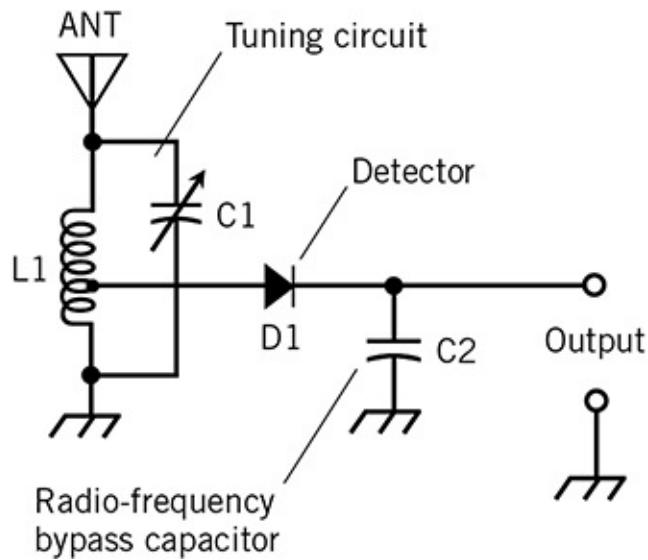
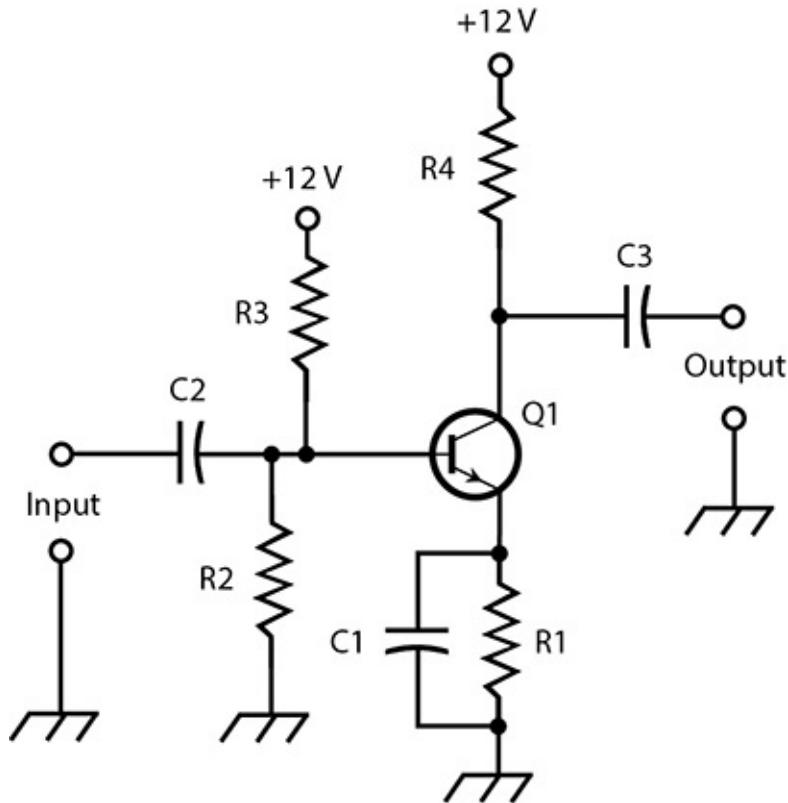
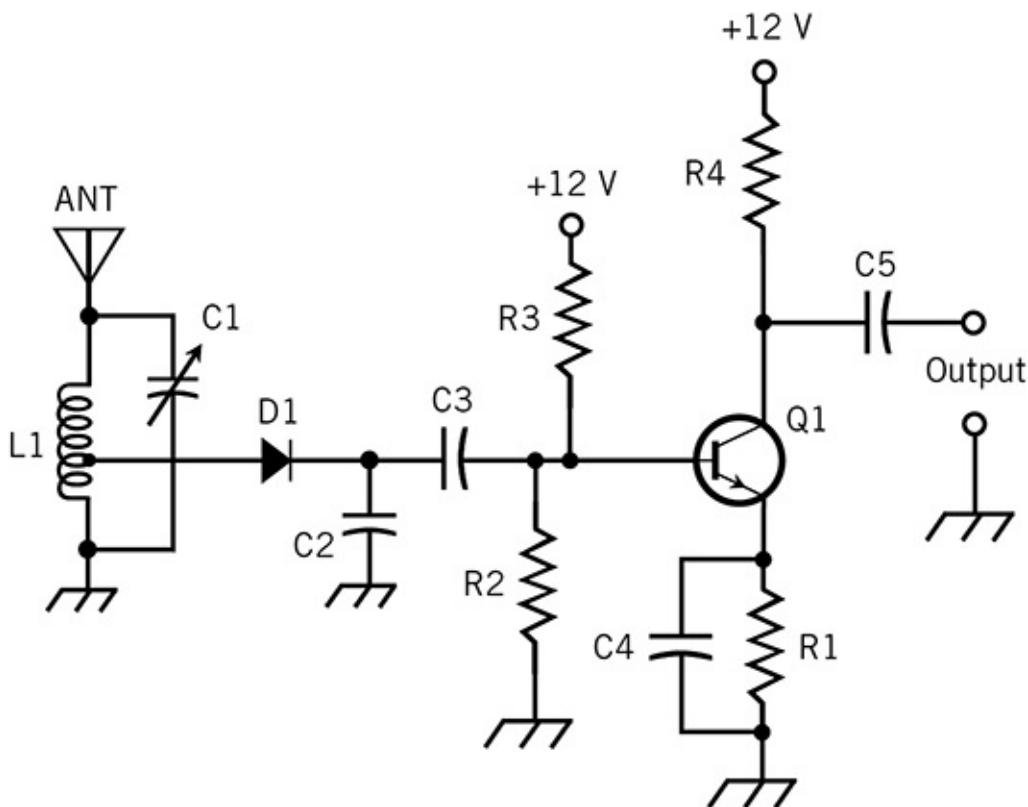
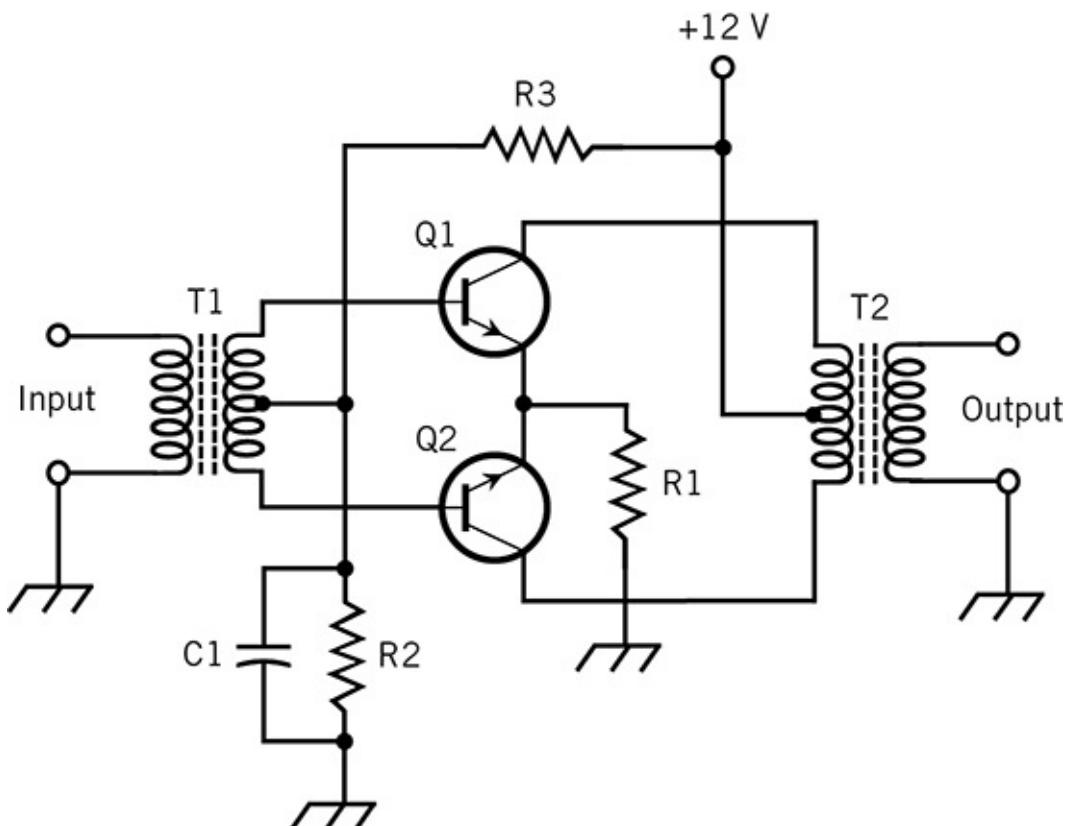

FIG. 5-1 Schematic of the tuned circuit and detector stages of a “crystal radio” receiver. This circuit produces a weak audio-frequency (AF) signal.
FIG. 5-2 An AF preamplifier circuit that can work with the “crystal radio” to produce a signal strong enough to drive a headset.
FIG. 5-3 Combination of "crystal radio" tuned circuit, detector, and AF preamplifier stages. Some component designators are updated from Fig. 5-2.
FIG. 5-4 An AF power amplifier circuit suitable for driving a speaker.
Figure 5-1 shows a “crystal radio” receiver built with an antenna, a tapped air-core inductor, a variable capacitor, an RF diode, and a fixed capacitor. The term “crystal” derives from the original construction of RF diodes in the early 1900s. In order to get a one-way current gate to act as a signal *detector* (or *demodulator*), radio experimenters placed a strand of fine wire called a *cat’s whisker* into contact with a chunk of crystalline lead sulfide called *galena*. Today, semiconductor diodes process RF signals in the same way as “crystals” once did, even though modern RF diodes don’t look like the old galena-and-cat’s-whisker contrivances.
You can’t call the circuit of Fig. 5-1 “complicated,” but it performs some sophisticated tricks. Aside from the antenna (an external component such as a length of wire running outdoors under a window sash to a tree) and a sensitive earphone or headphone that you can connect at the output terminals to hear radio stations (however faintly), this circuit contains only four components: the coil, the diode, and two capacitors.
audio-frequency (AF) volume to the point where it can drive a headset to a comfortable listening level. Figure 5-1 doesn't include a headset at the output. To accomplish that feat, you'll need another circuit, along with a battery or other source of DC power to make the AF output signal strong enough.
In the “crystal radio” (Fig. 5-1), RF current from the antenna *resonates* (reverberates) in L1 and C1. The *resonant frequency* depends on the size of the coil and also on the setting of C1. That frequency determines which station (if any) that you hear. Diode D1 converts the RF current to pulsating DC that contains a tiny bit of both the RF and the AF energy from the original transmitter. Capacitor C2 shorts the RF part of the signal to ground, leaving only AF energy at the output. You must adjust the position of the coil tap, by trial and error, to maximize the AF output.
Figure 5-2 shows another fairly simple schematic: an AF amplifier that employs a single NPN bipolar transistor. In addition to the transistor, this circuit has four resistors and three capacitors for a total of eight components. It needs a source of DC power such as a battery (not shown), which provides 12 V. This circuit accepts a low-level AF signal (the output of a “crystal radio,” for example) at the input terminals and boosts the power to a level strong enough to make audible sound come out of a headset. An experienced engineer might need a couple minutes to scribble the schematic and a couple of hours to build and test the circuit, “tweaking” the component values to get the best possible performance.
Because the circuit of Fig. 5-2 takes a weak signal and boosts it to a reasonable (but not very powerful) level, it’s sometimes called a *preamplifier*. If you want to drive a speaker so that all the students in a classroom can hear the sound, you’ll need more amplification. You can get that extra AF boost with one or more additional amplifiers connected to the output of the preamplifier.
In the circuit of Fig. 5-2, AF current passes from the input through C2 to the base of Q1. Capacitor C2 keeps the power supply DC from affecting the behavior of the previous circuit (the “crystal radio”). Tiny current fluctuations at the base of Q1 cause larger current variations through the transistor from the emitter to the collector. The amplified AF signal passes through C3 to the output. The resistors govern the current flowing through Q1; you must choose their values by experiment for optimum amplification. Capacitor C1 keeps the emitter at AF signal ground while resistor R1 allows some DC voltage to exist there.
Figure 5-3 is a schematic of a circuit that looks, at first glance, more complicated than either Fig. 5-1 or Fig. 5-2. But as you examine Fig. 5-3 for a minute, you'll see that it's nothing more than the composite of the "crystal radio" (Fig. 5-1) and the AF preamplifier (Fig. 5-2). The components are re-numbered generally going from left to right, the direction of signal flow through the system. (You should never duplicate a component designator within a single schematic.) In Fig. 5-3, the connection between the original "crystal radio" and the preamplifier corresponds to the short, horizontal line that goes from the dot above C2 to the left-hand side of C3.
Now that you can envision the two building blocks that make up the circuit of Fig. 5-3, the whole diagram looks elementary, wouldn't you say? You can follow the signal as it passes through the "crystal radio" and then through the AF preamplifier. The entire process, from the RF signal arriving at the antenna to the AF energy appearing at the output, takes place in a tiny fraction of a second.
The circuit of Fig. 5-3 produces a stronger signal than the feeble output of the "crystal radio" alone, which gets its power only from RF current that flows in
the antenna. Nevertheless, even the amplified AF output from the circuit of Fig. 5-3 isn't strong enough to provide a comfortable listening volume in a loudspeaker. It offers some sound power if you connect a headset to it, but not much. In order to further boost the AF signal level, you'll need a substantial *power amplifier*.
Figure 5-4 shows a two-transistor ensemble that can produce respectable sound power. It's called a *push-pull amplifier*. The top transistor amplifies half the AF waveform and the bottom transistor amplifies the other half. Imagine that Q1 "pushes" and Q2 "pulls" so when you combine their outputs, you get a magnified version of the entire input waveform. The push-pull amplifier can take the weak AF signal from a low-level amplifier (such as the circuit of Fig. 5-3) and boost it enough to make some loud sound come out of a speaker!
If the input signal doesn't contain much power, then the circuit of Fig. 5-4 won't get enough *drive* (input power) to produce a decent output signal. The circuit of Fig. 5-3 (the AF preamplifier) can provide enough "oomph" to adequately drive a push-pull AF power amplifier such as the one diagrammed in Fig. 5-4. The circuit of Fig. 5-1 (the "crystal radio" alone) can't.
In the circuit of Fig. 5-4, the input signal goes through an AF transformer, T1, and appears across its secondary. Transistor Q1 handles half of the cycle and Q2 handles the other half, as the AF input current flows up and down through the secondary of T1. Transformer T2 assembles the two halves of the amplified cycle back into a complete AF signal stronger than the one entering T1. When you connect a speaker to the secondary of T2, you'll hear some loud sound!
If you combine the circuits of Figs. 5-3 and 5-4 in *cascade* (one after the other), you get a complete AM radio receiver that will produce respectable sound from a speaker. Figure 5-5 shows the entire three-transistor AM radio receiver in a single schematic. Again, we've had to change some of the component designators that appeared in previous diagrams, so they increase generally as you go from the original input at the antenna to the final output at the speaker, taking pains to ensure that you don't inadvertently give two different components the same name.
FIG. 5-5 Complete radio receiver circuit. Some of the component designators in the AF power amplifier stage are updated from Fig. 5-4. This schematic includes the speaker.
The full AF voltage appears across the entire resistance of R8. The arrow touching the zig-zag symbolizes the potentiometer *wiper* or *slider*, which “picks off” AF voltages that can range from zero (all the way to the right-hand end of the zig-zag, at ground) to the maximum possible (all the way to the left-hand end of the zig-zag, at C5). The slider signal causes AF current to flow in the primary of transformer T1. From there, the signal flows as described in “Follow the flow” for Fig. 5-4. The only difference between this situation and that one is the numbering of the component designators. You can also add a speaker to the output of T2, as you did in Fig. 5-5.